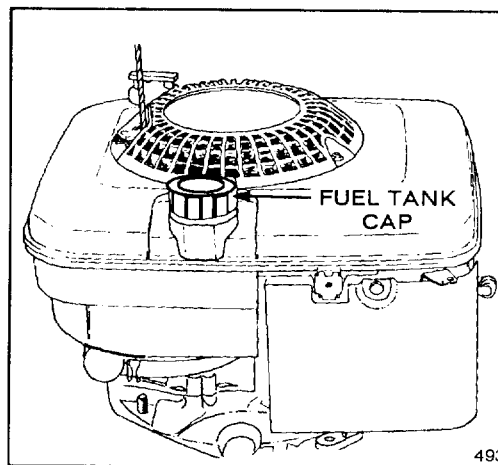

Figure 8
1. Clean around fuel tank cap and remove cap from tank (Fig. 8). Using unleaded gasoline, fill fuel tank to within 1/4 to 1/2 inch (6 to 13 mm) from top of tank, not into filler neck. Do not fill tank full.